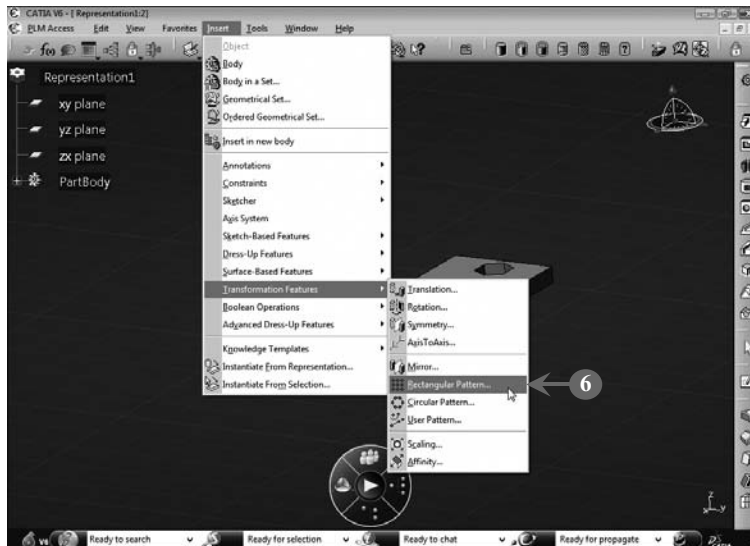

FIGURE 3.109
6. Select **Insert > Transformation Features > Rectangular Pattern**, as shown in **Figure 3.109**: